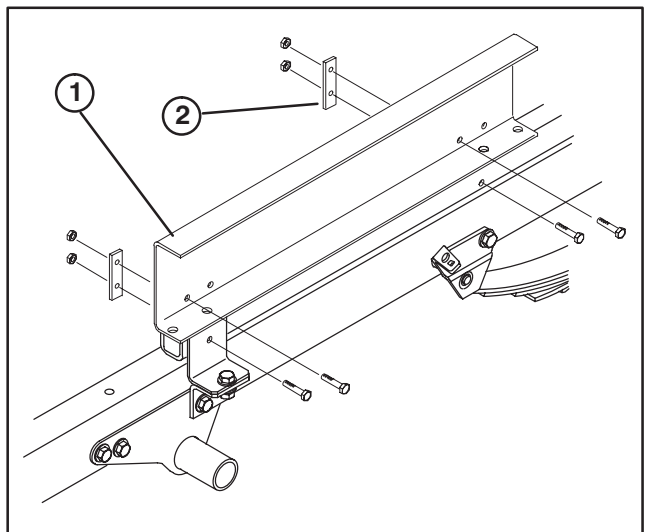

Figure 6
15. Secure lift mounting brackets to lift with (4) 5/16–18 x 1" lg. flange head capscrews and flangenuts. Position brackets as shown in figure 6.